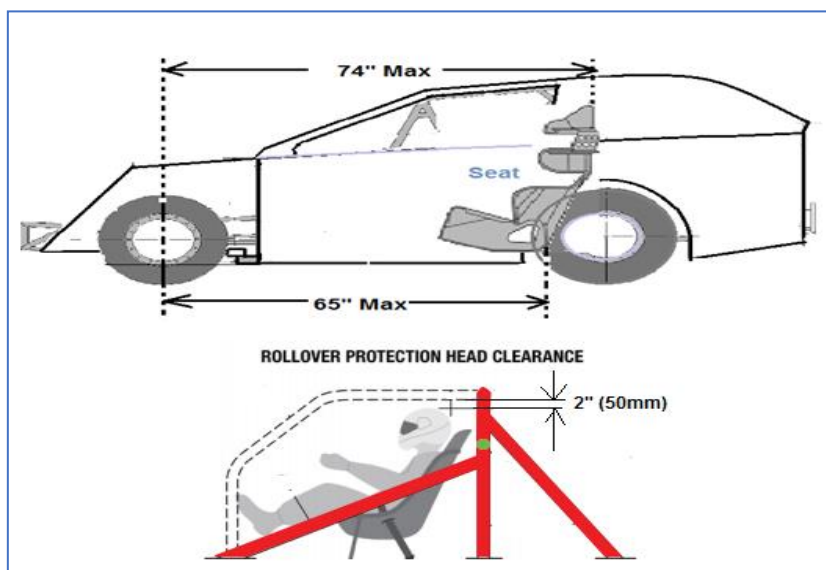

Figure 14
20.7 Bottom rear of seat must not be positioned more than 65-inch rearward, measured from the centre of either of the front spindles (*Figure 14*).
20.8 Seat may be tilted back for added driver head clearance; however, no portion of the seat may be set back more than 74 inches measured from the centre of either front spindle (*Figure 14*).
20.9. The minimum helmet clearance inside the roll cage is to be 50mm from all roll bars (No tolerance). Measurement is taken from the underside of the overhead roll cage bars to the top of the helmet with the driver seated and in full harness (*Figure 14*).